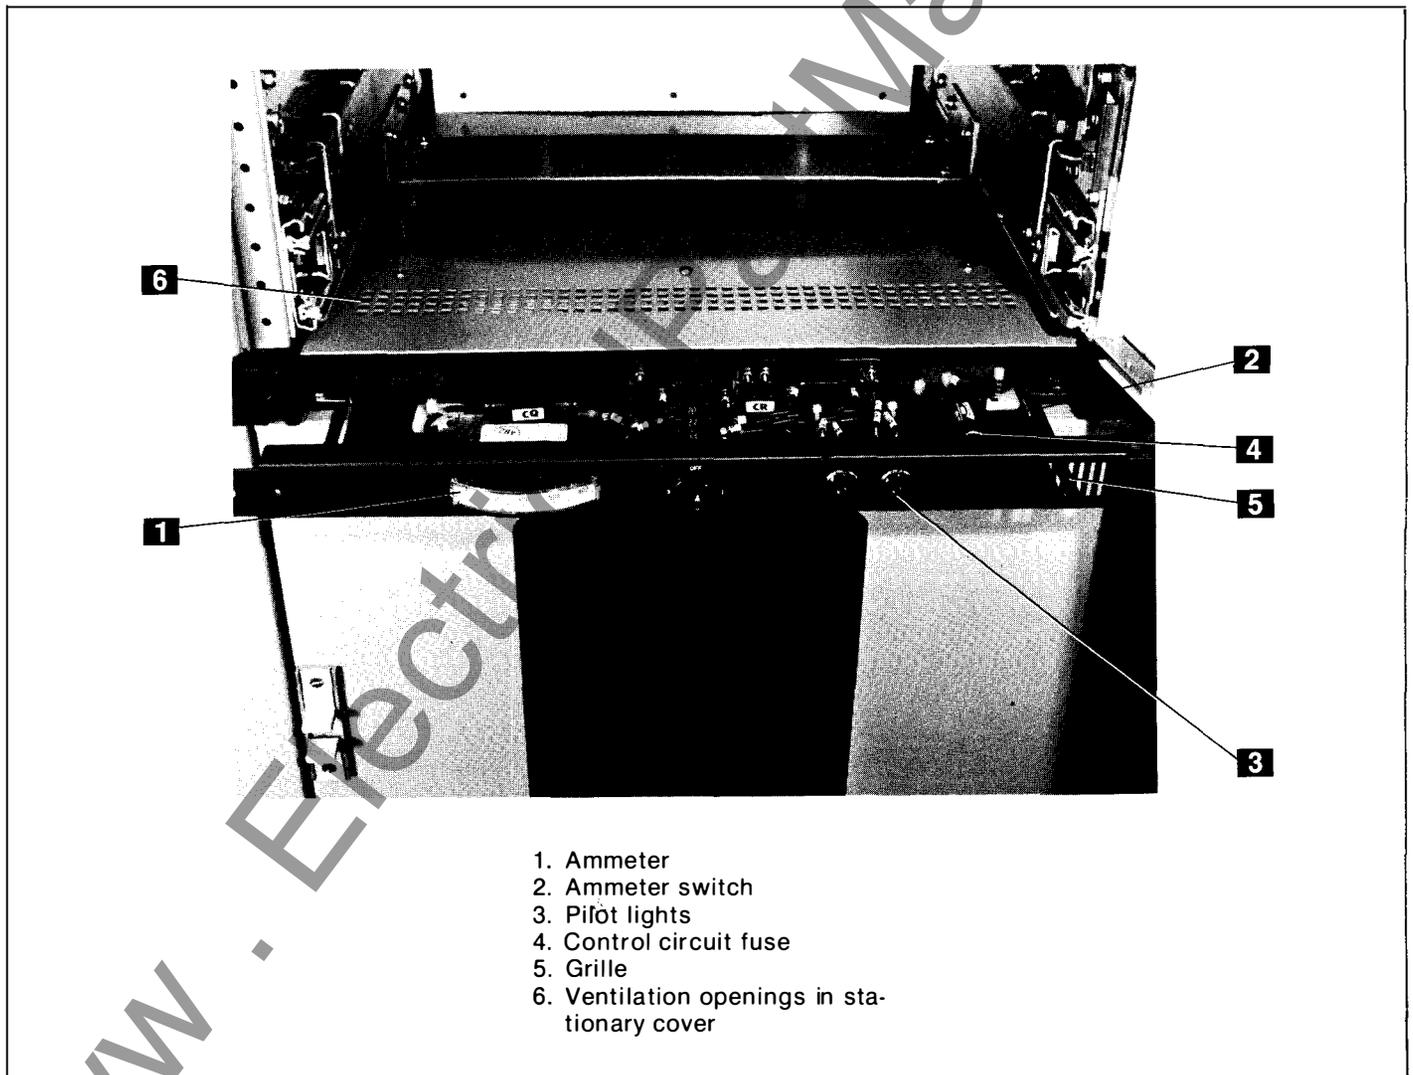

Fig. 3-4. Slide-out instrument tray
A standard slide-out instrumentation tray, Fig. 3-4, is located above each breaker compartment eliminating cross-hinge wiring. When required, optional feeder instrumentation may be included and mounted on the front face of the tray such as a horizontal-edgewise ammeter, ammeter switch, pilot lights or annunciator, and test switches.
The instrument tray also permits the flow of ventilating air to the breaker compartment. The grille, (5), Fig. 3-4, on the tray face with the openings (6) in the stationary cover provide an indirect path for the entrance of cooling air.